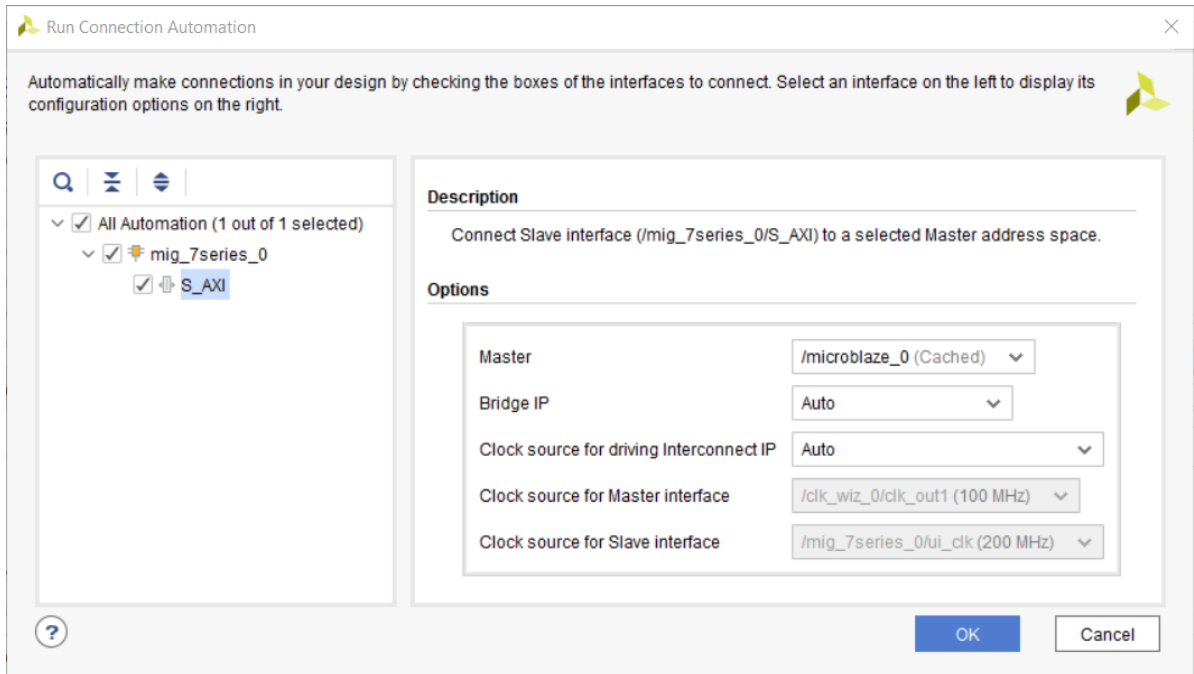

Figure 5-14: Run Connection Automation Dialog Box to Connect Memory IP to MicroBlaze
- At the top of the design canvas, click **Run Connection Automation** to connect the Memory IP core to the MicroBlaze processor. The Run Connection Automation dialog box opens, as shown in Figure 5-14.